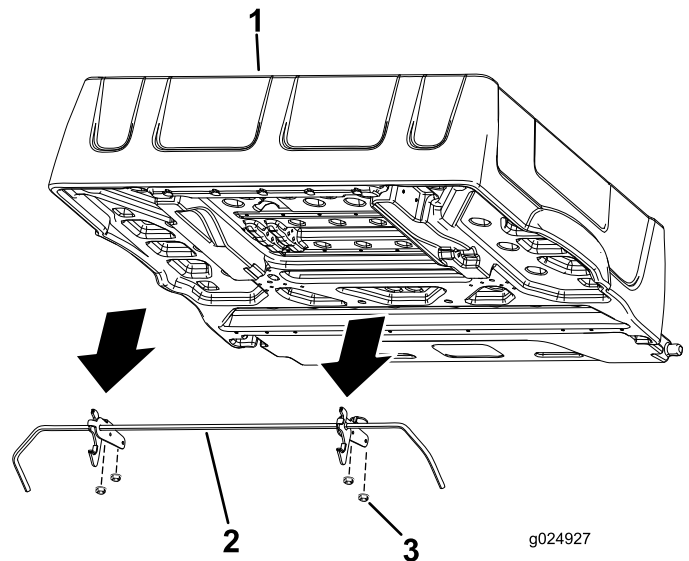

Figure 3
5. Remove the 4 flange nuts securing the latch-rod brackets to the underside of the box (Figure 3).